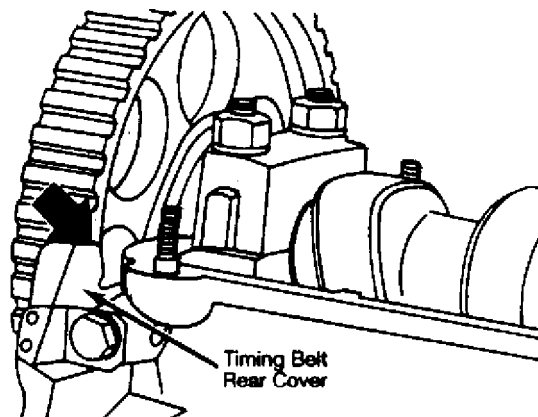

Fig. 4: Setting Camshaft Timing Mark
2) Position camshaft so mark on back of sprocket is in line with upper edge of timing belt rear cover. See Fig. 4. Both lobes for No. 1 cylinder should point upward at 45° from camshaft follower so both valves are closed. Install timing belt on camshaft sprocket.